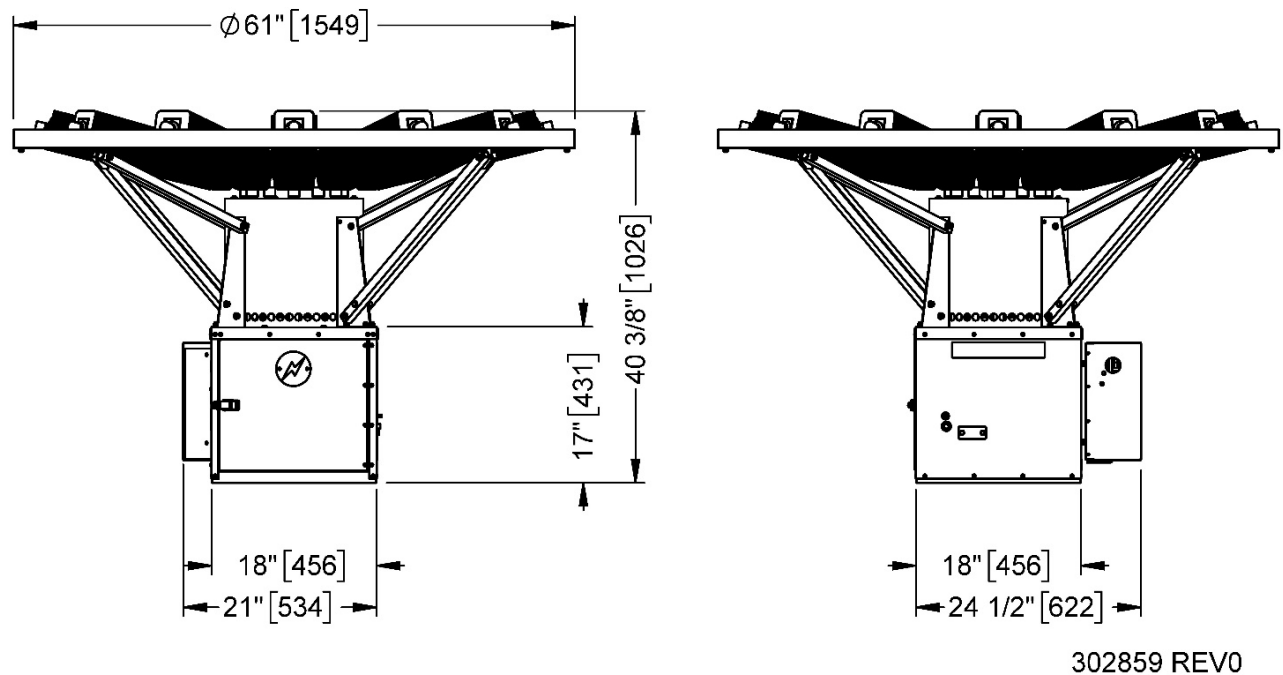

Figure 29 – Model 8550-SD TEG Dimensions
The Cathodic Protection Interface System provides for easy adjustment and monitoring of power to a Cathodic Protection (CP) type load. The anode and cathode cables enter the cabinet at the bottom and connect directly to the heavy-duty terminal block. Refer to Figure 29 for locations and descriptions of the major components of the CP interface cabinet.
Figure 29 shows the Model 8550 TEG in its normal operating configuration. Physical size data is listed below.